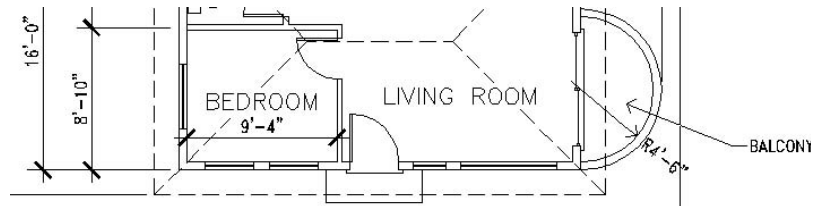

FIGURE 11.34: The completed bedroom dimension
7. Suppress the running osnaps for one pick. Then move the dimension up to a position below the BEDROOM text and above the lower wall, and click to fix it there. The dimension is placed, and both extension lines are suppressed (see Figure 11.34).